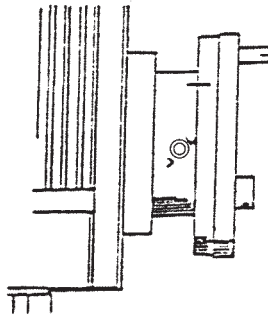
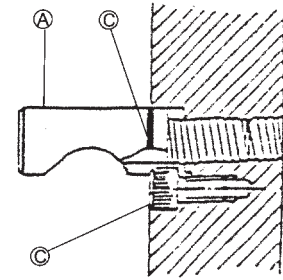

fig 2
fig 3
**NOTE:** For correct locking condition, each cam must tighten with its index line between the two “V” marks on the nose (fig. 2). Do not interchange chucks or other attachment without checking each cam for correct locking. To adjust camlock studs, remove lock screw B and turn A one full turn in or out as required. Refit and tighten screw B, each stud (fig. 3). A datum ring (c) is marked on each stud as guide to original or initial setting.